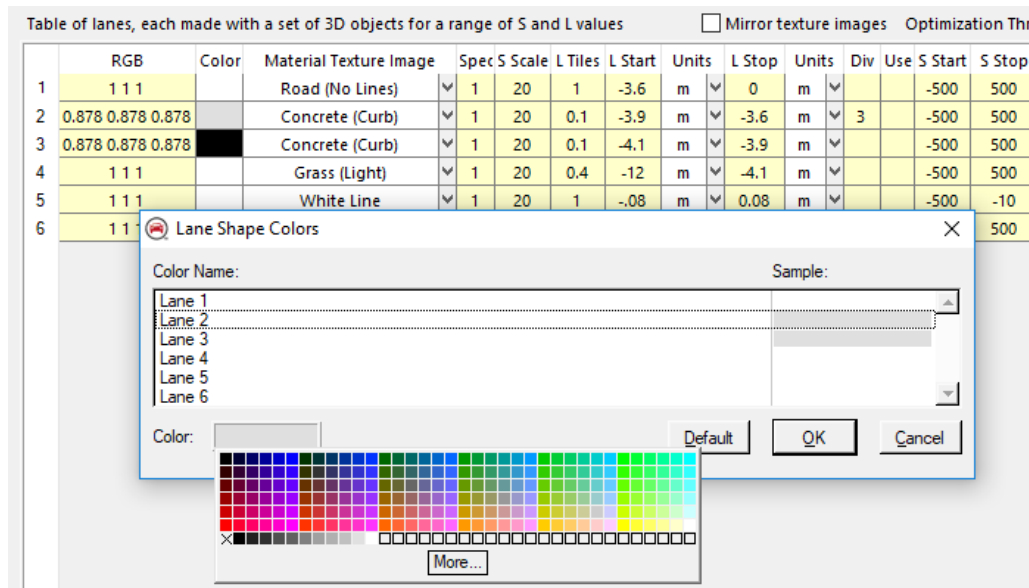

Figure 6. Pop-up color selector.
- ① **RGB** color component (red, green, blue). Color is saved in the dataset with RGB numbers separated by a space. The color defined by the RGB values is shown in the adjacent **Color** column ②.
- ② **Color**. Each cell shows the color defined by the adjacent RGB values ①. Each cell is also a button; click a cell to view a window with a color selector (Figure 6).